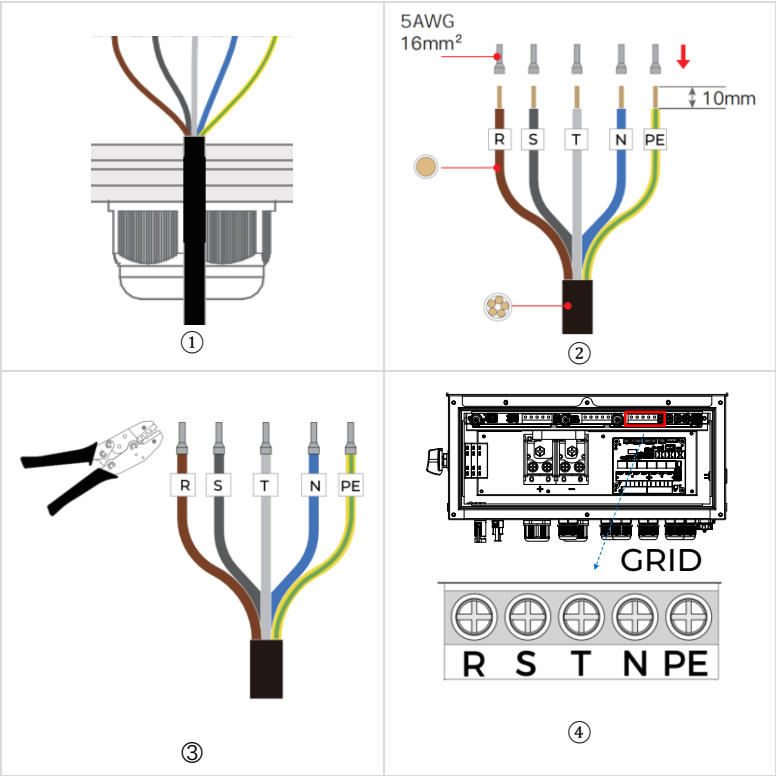

Figure 5-5 Grid connection
Step 2 The prepared cable is inserted through the GRID port as shown in Figure 5-5①.
Step 3 Remove the insulation layer of the cable by using a wire stripper according to the Figure 5-5②.
Step 4 Insert the stripped power cables into the cord end terminals respectively and crimp them by using a crimping tool, as shown in Figure 5-5③.
Step 5 The cables shall be connected to the ports according to R, S, T, N, PE respectively as shown in Figure 5-5④.